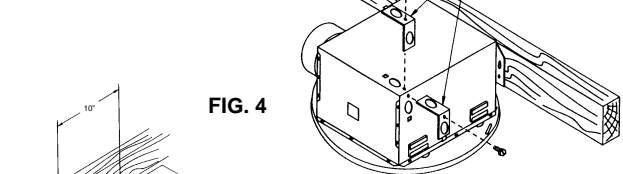

FIG. 3
**OPTION #1:** Attach housing directly to ceiling joist using (4) screws or nails. See Fig 3. Flange on housing should drop below bottom of ceiling joist a distance equal to the thickness of the sheetrock and plaster.
NOTE: The knockout support may be reversed if desired, to open alternate knockout hole and cover unused hole. See Fig. 3. If both holes are to be used, simply remove knockout.